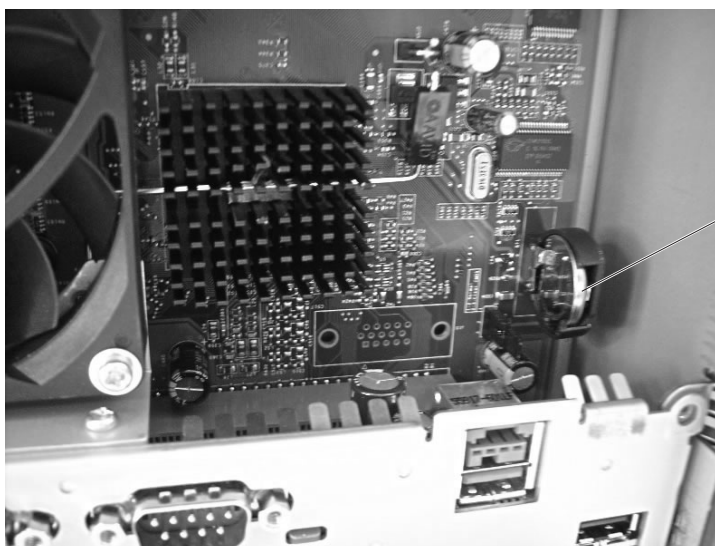

Figure 53. Battery location
4. See Figure 53 and locate the system battery ( **A** ) on the system board. Using a flat-bladed screwdriver, carefully pry the battery from its housing.